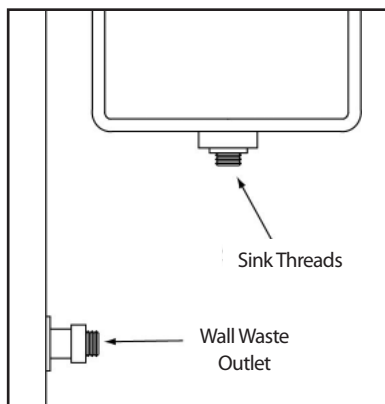

Figure 1
2. The Gleco Trap HV has two identical threaded 1½" outlets on top of the container. Decide which container outlet will connect to the sink drain based on the location of the wall waste outlet as shown in Figure 1. The wall waste container outlet will be on the same side as the wall waste outlet, and the other outlet will connect to the sink drain. If the wall waste outlet is vertically in line with the sink drain, choose either container outlet for the sink drain connection.